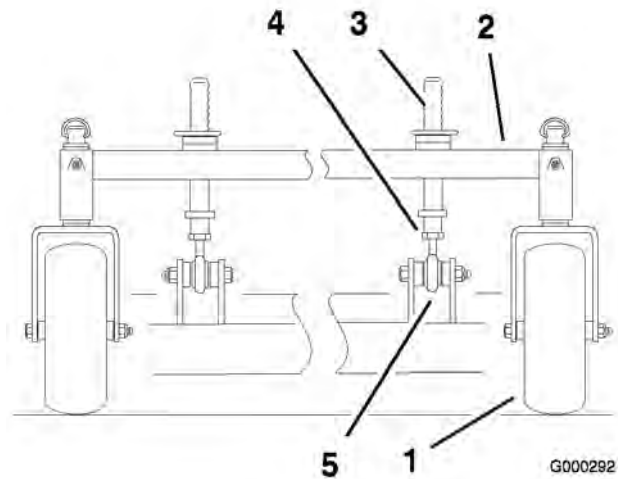

Figure 77
1. To change the front-to-rear pitch, the front height-of-cut posts can be adjusted (Figure 77).
2. To raise the front of the deck, loosen jam nut and rotate the front pin clockwise (Figure 77).
3. To lower the front of the deck, loosen jam nut and rotate the front pin counter clockwise (Figure 77).
6. Tighten the jam nuts (Figure 77).